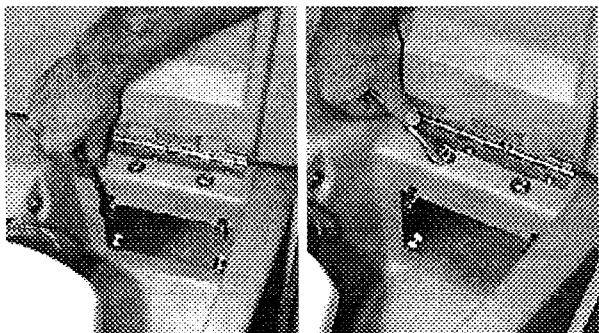

FIG. 11.
- a. Loosen four bolts on brush motor lock plate, located inside battery compartment as shown. (Figure 11)
- b. Turn the two brush adjustment screws counterclockwise an equal amount of turns (keeps motor shaft level) to loosen the brush belt. (Figure 11)